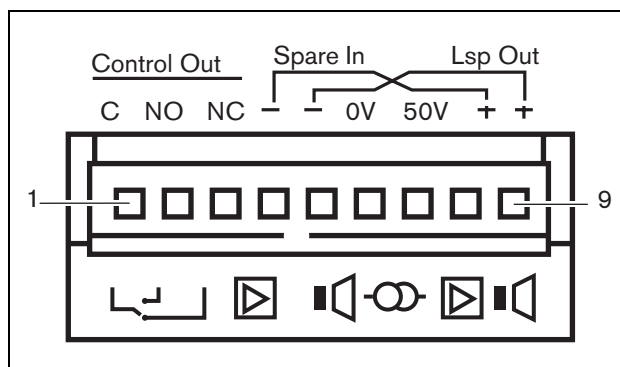

figure 9.4: Amplifier channel connector
An amplifier channel (see figure 9.4) is a group of outgoing signals that have been processed by the same amplifier unit of the power amplifier. The number of amplifier channels depends on the type of power amplifier (see table 9.3).
Each amplifier channel has one control output. The control output can be used to send signals to third party equipment to trigger actions. Each control output has three pins (see figure 9.4). The common (C) pin of the control output should always be connected. Whether the other pin that is connected is the normally closed (NC) or normally open (NO) depends on which action you want to take place when the control output is active (see table 9.5).